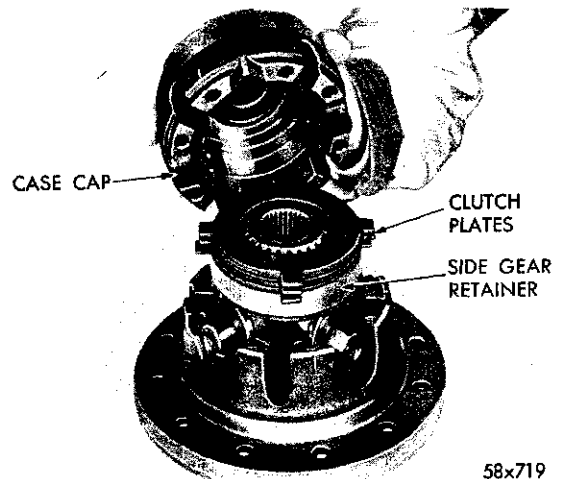
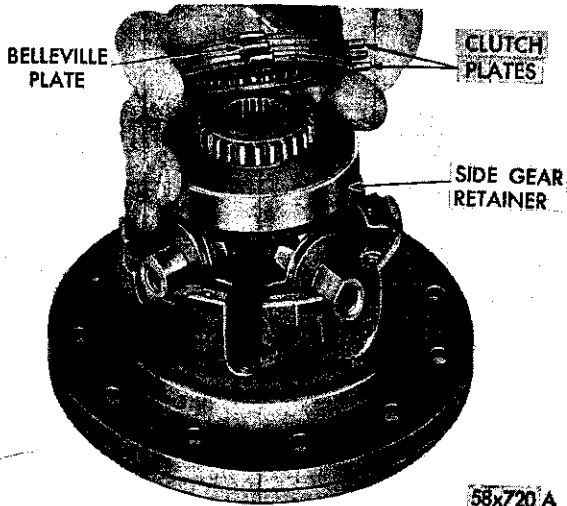

Fig. 33—Removing or Installing Differential Case Cap
Fig. 34—Removing or Installing Clutch Plates (Cap Side)
(1) Remove the axle drive gear. Measure the run-out of the drive gear mounting flange. Replace both case halves if the runout exceeds .003 inch.
(2) Before disassembling the case halves, place scribe marks on each half to aid in aligning the case when reassembling (Fig. 32). Remove the case cap attaching bolts and remove the case cap (Fig. 33). Remove the clutch plates (Fig. 34).